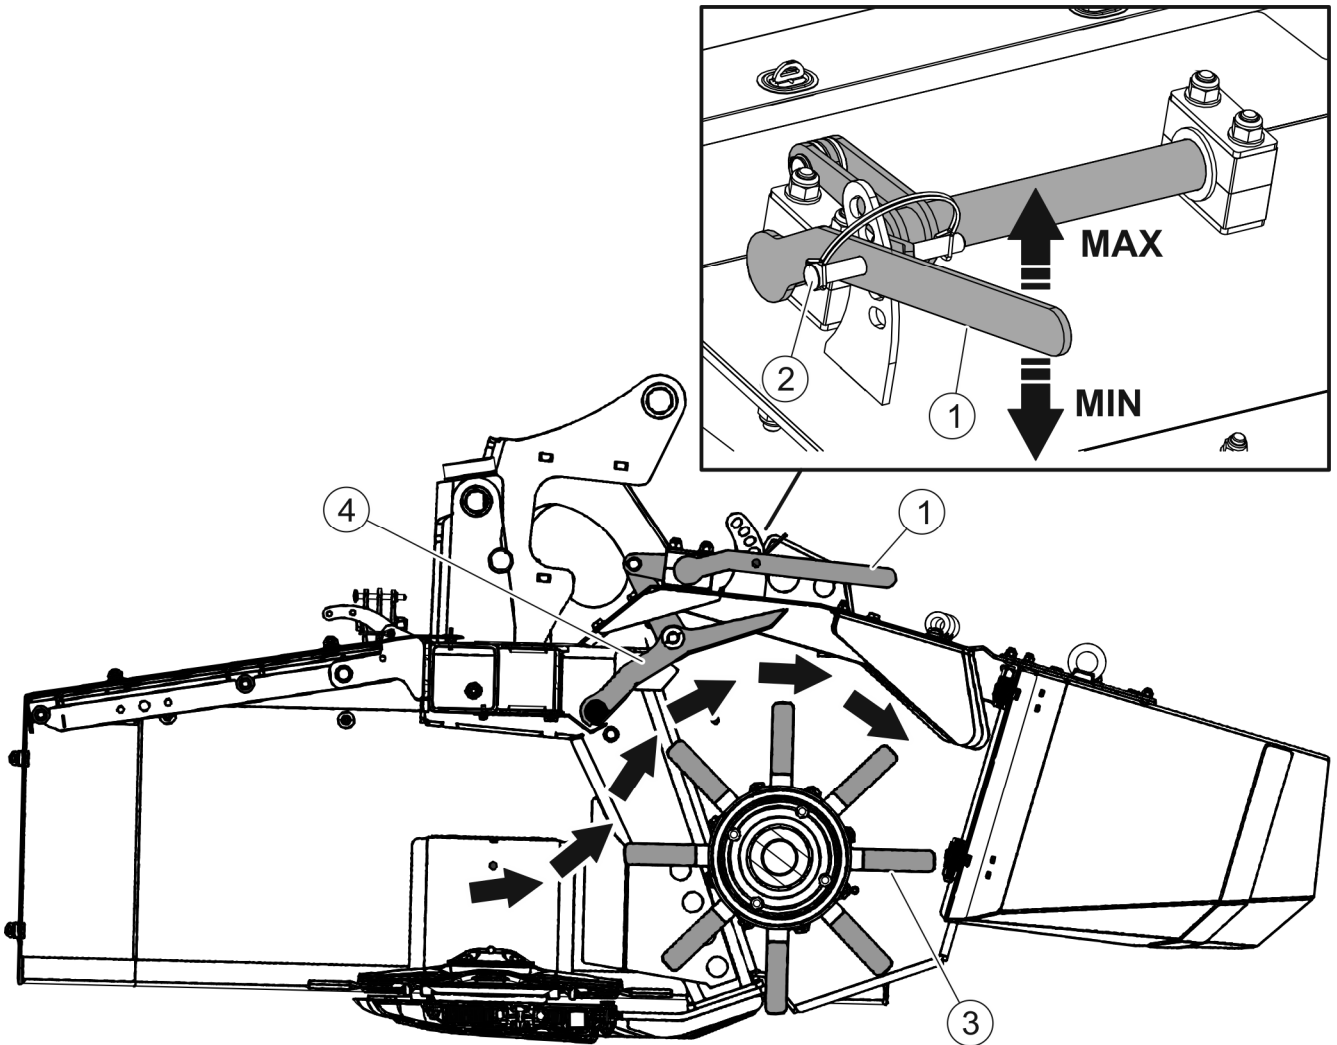

FIGURE 4.10 Swath conditioner adjustment PDF301C / PDF340C.
Depending on the type and density of the mown material, you can set the intensity of swath conditioning (FIGURE 4.10). This is done by the lever (1) on the support frame of the conditioning assembly connected to the damping fingers. The damping finger must be adjusted so that the mown material does not collect between the cutter bar and conditioning shaft.